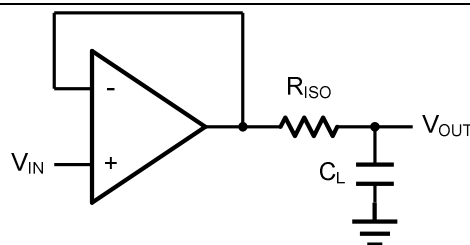
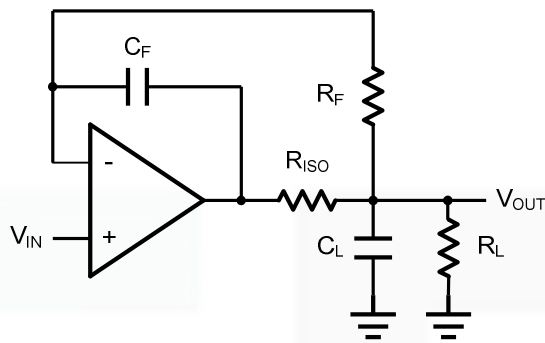

Figure 2. Indirectly Driving a Capacitive Load Using Isolation Resistor
Figure 3. Indirectly Driving a Capacitive Load with DC Accuracy
The BDM8551 family is optimized for bandwidth and speed, not for driving capacitive loads. Output capacitance will create a pole in the amplifier's feedback path, leading to excessive peaking and potential oscillation. If dealing with load capacitance is a requirement of the application, the two strategies to consider are (1) using a small resistor in series with the amplifier's output and the load capacitance and (2) reducing the bandwidth of the amplifier's feedback loop by increasing the overall noise gain. Figure 2. shows a unity gain follower using the series resistor strategy. The resistor isolates the output from the capacitance and, more importantly, creates a zero in the feedback path that compensates for the pole created by the output capacitance.
The circuit in Figure 3 is an improvement to the one in Figure 2.  $R_F$  provides the DC accuracy by feed-forward the  $V_{IN}$  to  $R_L$ .  $C_F$  and  $R_{ISO}$  serve to counteract the loss of phase margin by feeding the high frequency component of the output signal back to the amplifier's inverting input, thereby preserving the phase margin in the overall feedback loop. Capacitive drive can be increased by increasing the value of  $C_F$ . This in turn will slow down the pulse response.